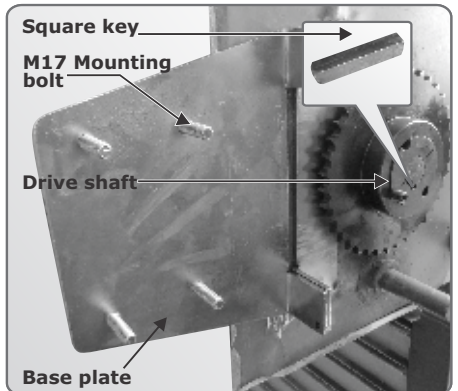

FIGURE 25
9. Fit the sprocket supplied with the **RSO** kit onto the door's driveshaft and insert the square key(not supplied) into the slot as shown in Figure 25.
Connect all cables as required according to the wiring diagram shown in Figure 25